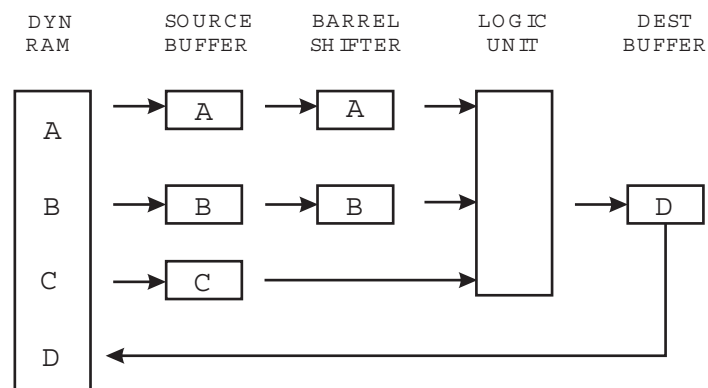

FIGURE 6.3. Blitter Block Diagram
The block diagram (Figure 6.3) for this device shows the DMA control and address bus logic. The output of each controller indicates the number of DMA channels driving the Register Address Encoder and RAM Address Generator.
The procedure for moving and combining bit-mapped images in memory received the name Bit Blit from a computer instruction that did block transfers of data on bit boundaries. These routines became known as Bit Blitters or Blitters. The Blitter DMA Controller is pre-loaded with the address and size of three source images (A, B, and C) and one destination (D) in the dynamic RAM (refer to Figure 6.3). These images can be as small as a single character or as large as twice the screen size. They can be full images or smaller windows of a larger image. After one work of each source image is sequentially loaded into the source buffer (A, B, C) they are shifted and then combined together in the logical unit to perform image movement, overlay, masking, and replacements. The result is captured in the destination buffer (D) and sent back to the RAM memory destination address.